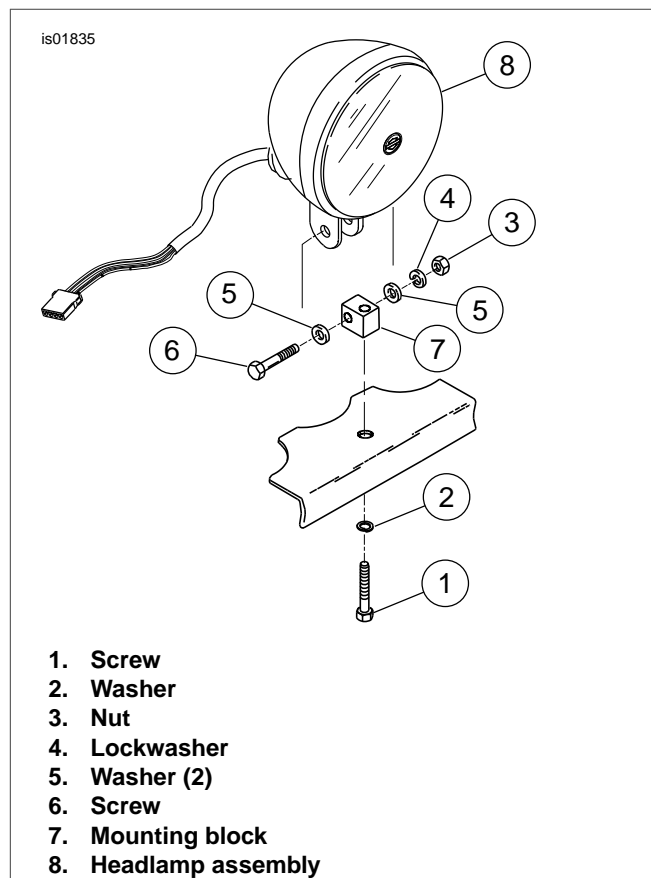
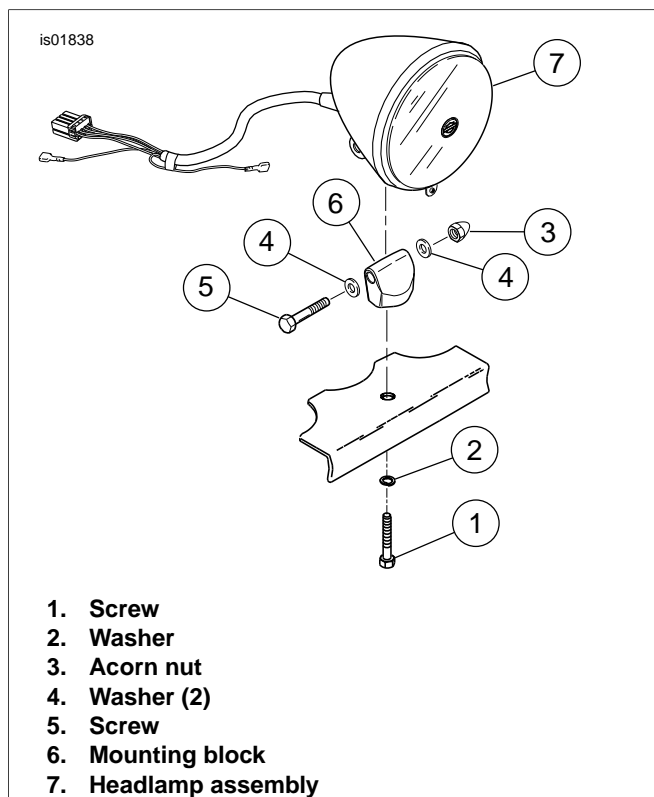

Figure 1. Softail and Dyna Headlamp Assembly with Mount (except FXSTD)
Figure 2. FXSTD Headlamp Assembly with Mount
4. *All Softails (except FXSTD):* See Figure 1. Remove screw (1) and washer (2) from stem and bracket. Discard screw but save washer for later use.
5. Remove and discard mounting block (7) and headlamp assembly (8).
6. *FXSTD models:* See Figure 2. Remove screw (1) and washer (2) from stem and bracket. Save screw and washer for later use.
7. Remove and discard nut (3), washers (4), and screw (5).
8. Remove and discard mounting block (6) and headlamp assembly (7).
6. See Figure 1. Remove screw (1) and washer (2) from stem and bracket. *2005-Earlier FXDWG:* Discard screw but save washer for later use. *2006-Later FXD:* Save screw and washer for later use.